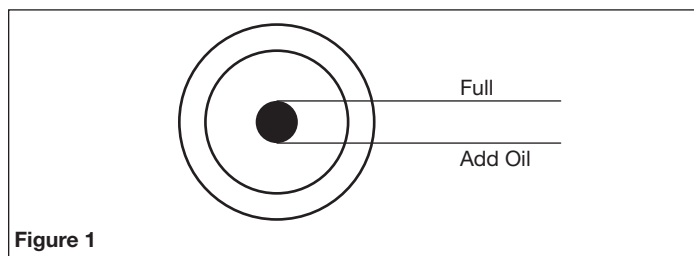

Figure 1
2. Remove pump breather and fill pump with 8.5 oz. of oil. Use full synthetic motor oil like Mobil 1® 10W-30. Do not use regular automotive oil such as 10W-30. Additives in regular oil can cause valve deposits and reduce pump life. For pumps with an oil sight glass, oil level can be monitored and maintained as shown in Figure 1.